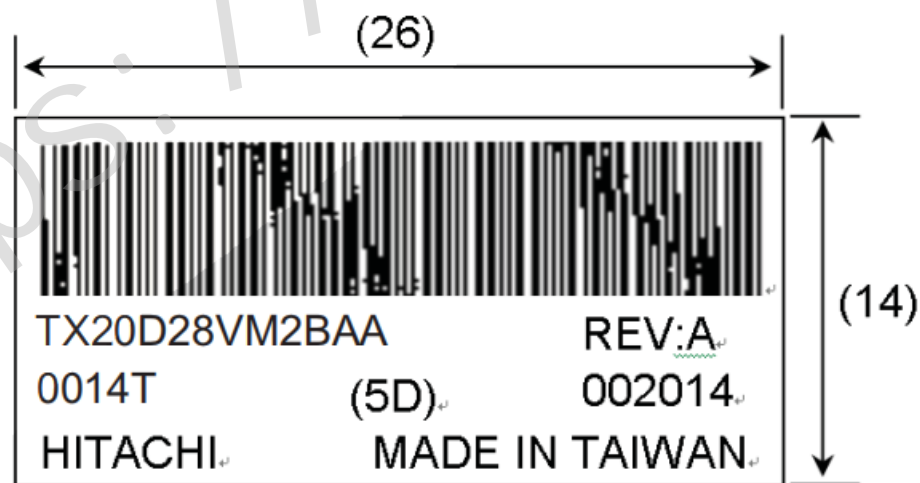

Fig 13.3
1) The lot mark is showing in Fig.13.3. First 4 digits are used to represent production lot, T represented made in Taiwan, and the last 6 digits are the serial number.
- 4) The location of the lot mark is on the back of the display shown in Fig. 13.3.